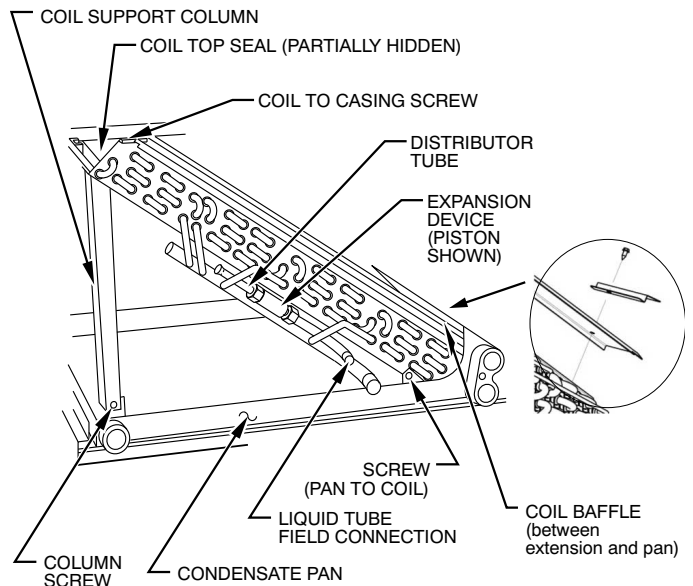
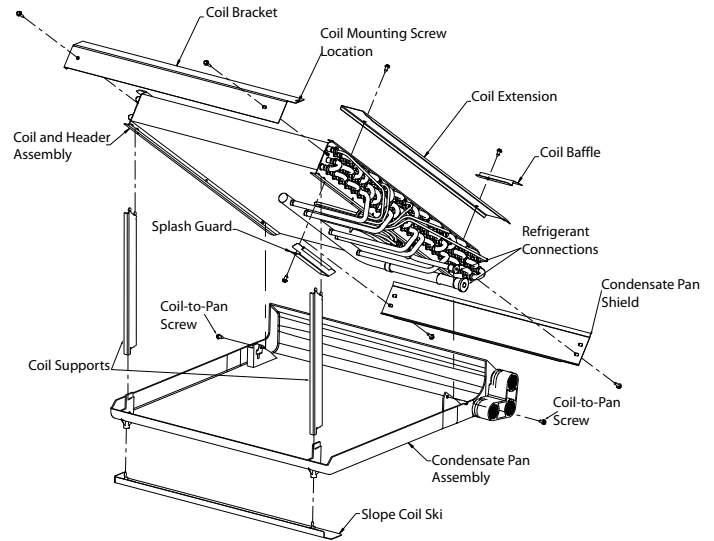

Fig. 33 – Slope Coil Component Location (Prior to 1996)
Fig. 34 – Slope Coil Component Location (1996 and Later) ^{A14307}
8. Place assembly on a flat surface. On units manufactured prior to 1996, remove two screws securing coil support columns to pan (Fig. 33).
10. Remove two screws securing coil to condensate pan (Fig. 33 and Fig. 34).
12. Attach new painted Top Seal to new coil using brass colored screws included with packaging (Fig. 33 and Fig. 34).
13. Remove screw at bottom of coil extension and reuse to attached Coil Baffle in same location. Long side of baffle toward pan (Fig. 33 and Fig. 34).
15. Install new coil pan assembly into unit and secure with one screw previously removed from unit casing (Fig. 33).